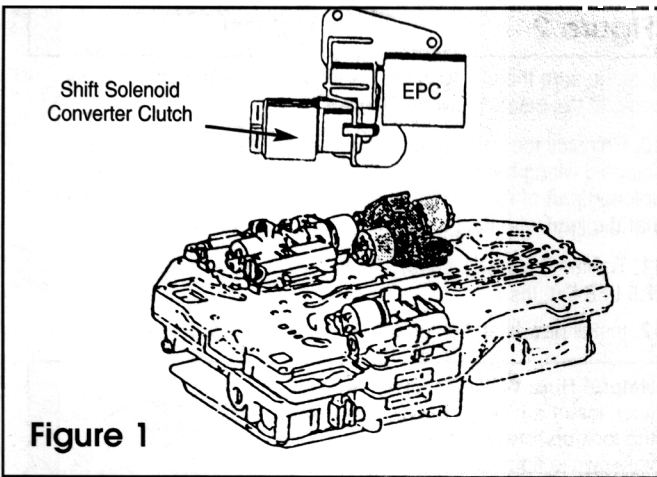

Figure 1
- Remove pressure control housing from valve body by removing three bolts. This will allow removal and installation of all solenoids (**Figure 1**).